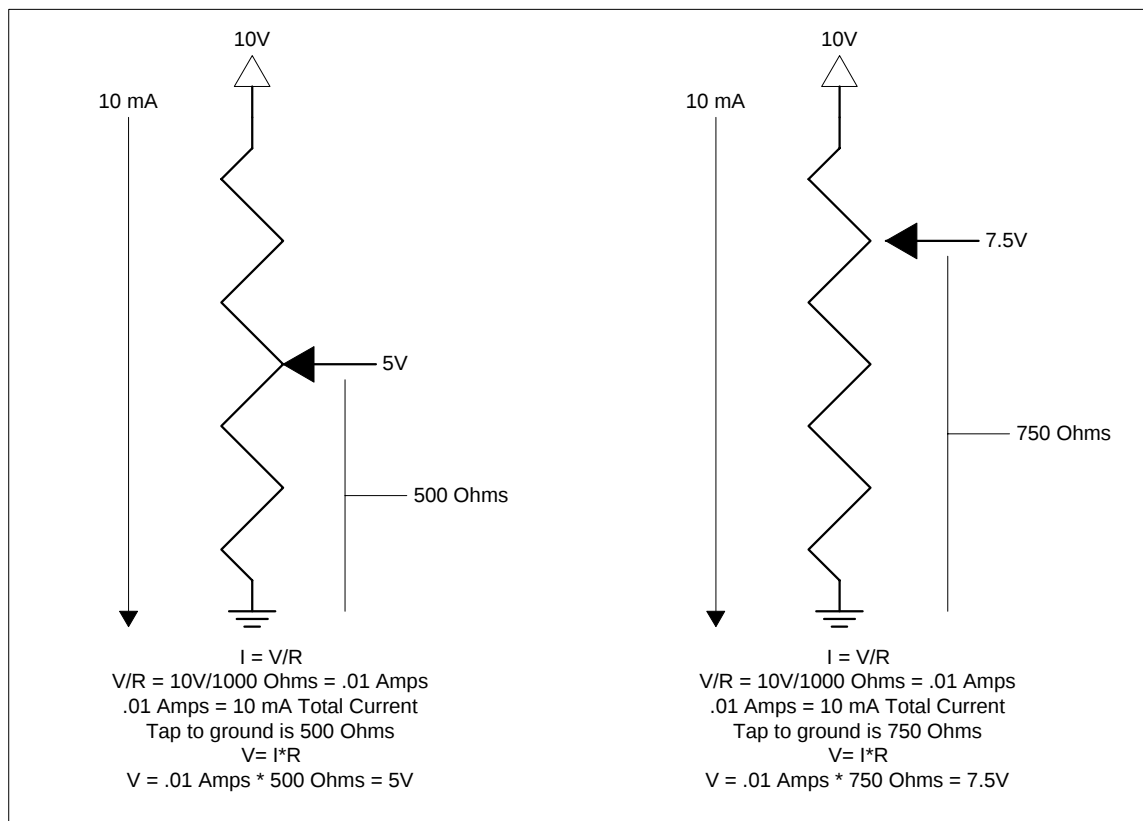

Figure 4: The Variable Voltage Divider – a Pot Configured to Control Voltage
So, we have 7.5 Volts at the tap. Congratulations, you're well on your way to having the privilege of getting in touch with your Appendage. The ribbon of the Appendage is just a pot, and the tap is where you press your finger. Voltage is applied to one end, and ground is applied to the other, just like in Figure 4. Don't worry – you won't get “zapped” by pressing the ribbon because (A) it's insulated – the electrons can't jump out and kill you and (B) the voltage is so low, you wouldn't know it if you did touch it. You'd be dead instantly. No, just kidding, it's such a low potential and is supplied by so little current, it couldn't be felt.